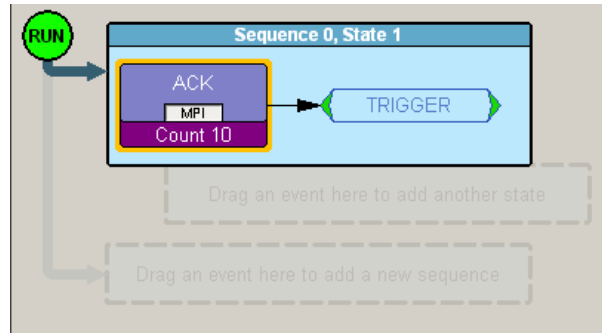

Figure 7.24 Example 2: Complete Rule
- Step 5** Close the Event properties dialog box. The counter value 10 now appears in the ACK Event button (Figure 7.24). The trigger occurs after the analyzer detects the tenth occurrence of an ACK.
- Step 1** From example 2, the ACK with counter is the first event in the state (Figure 7.24).